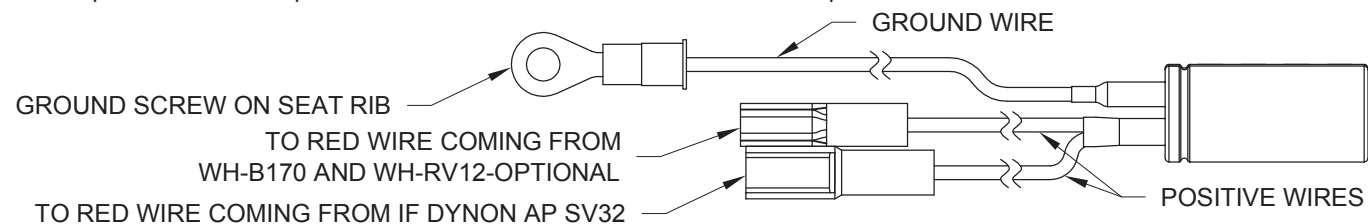

FIGURE 2: NOISE FILTER DETAIL
Step 4: Connect the spade terminal on the red wire coming from the IF DYNON AP SV32 Autopilot Servo with the appropriate gender spade connector coming from the ES-00103 Noise Filter. There are two red wires crimped together in one spade connector from the WH-RV12-OPTIONAL (RED) and WH-B170 (RED) harnesses. Connect this spade connector to the remaining spade connector on the noise filter. Connect the ring terminal on the ground wire to the F-1215-R Seat Rib. See Figure 2 and Figure 3.